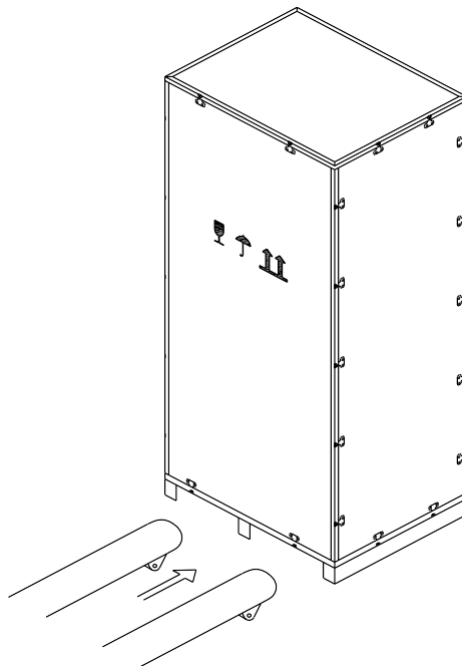

Figure 3-2 Transport to the designated site
- 2) Transport the equipment to the designated site by forklift, as shown in Figure 3-2;